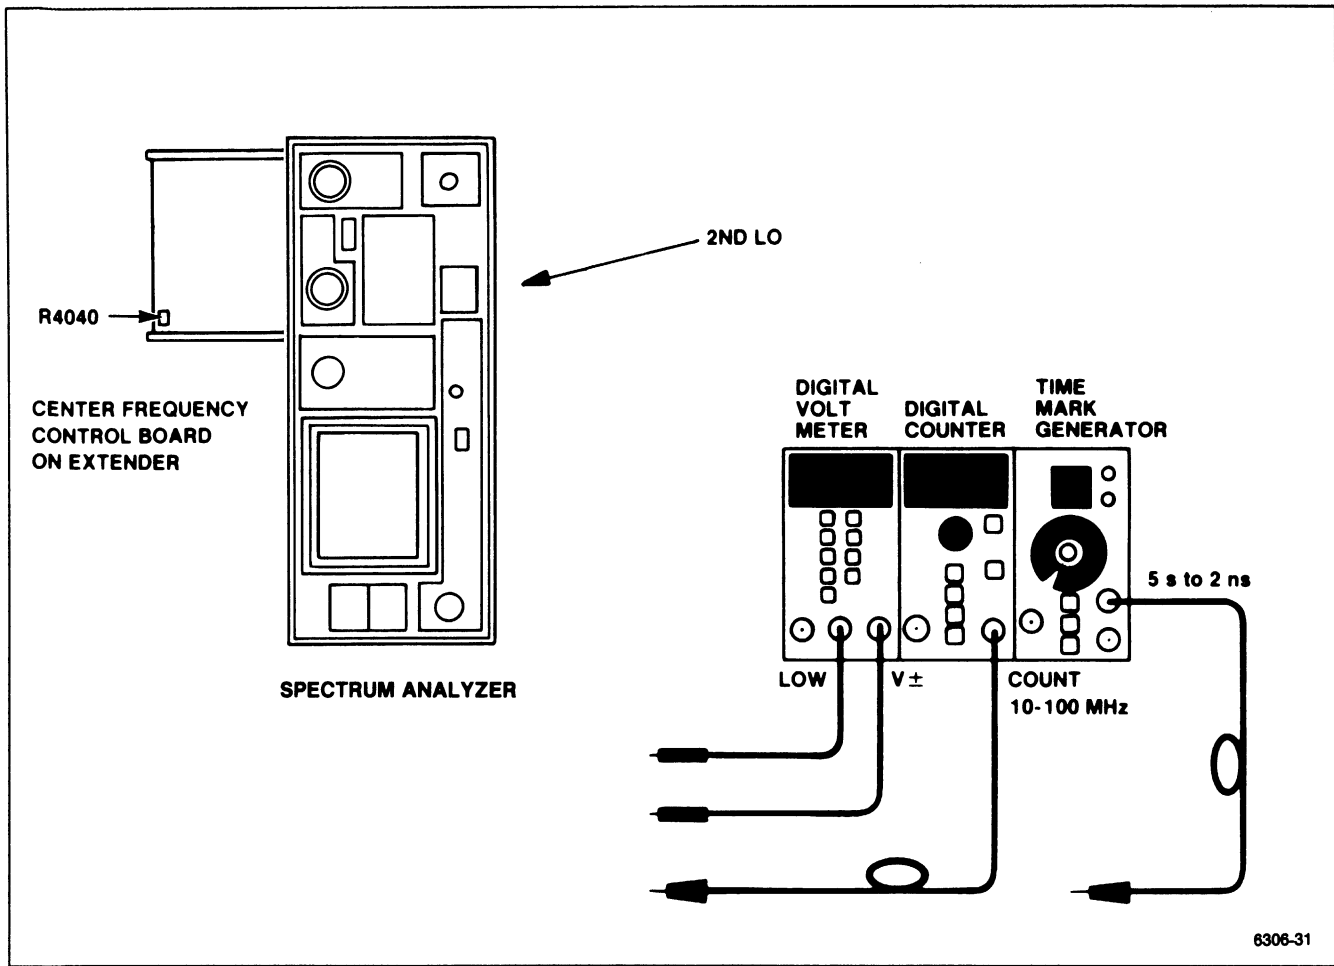

Figure 6-19. 2182 MHz 2nd LO Phase Lock adjustment setup.
a. Test equipment setup is shown in Figure 6-19. Remove and install the Center Frequency Control board on an extender board.